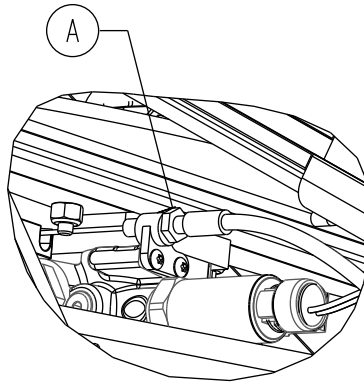

Figure 31 – Loosen the manual release cable lock nut
5. Using a 10 mm combination wrench, loosen the manual release cable lock nut (A) (Figure 31).